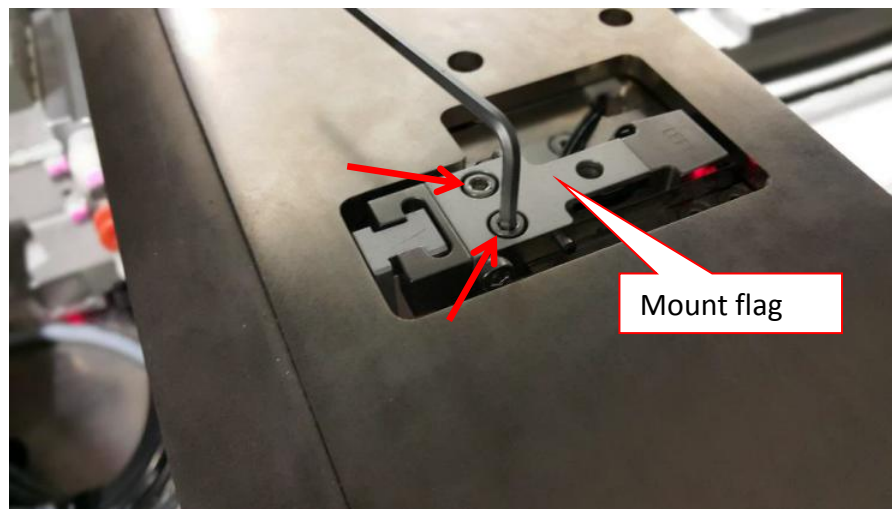

Figure 23 Mount Flag Removal
- a) Loosen 2 x Screws & remove Mount Flag as shown in Figure 23
- c) Assemble the Mount Flag and tighten 2 x Screws as Figure 23